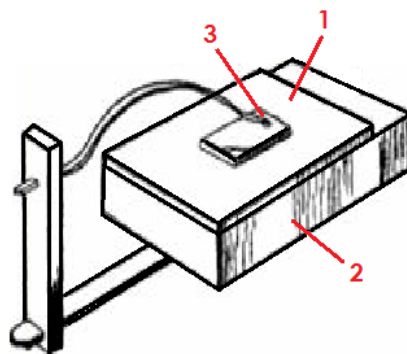

Fig. 1. The structure of the analyzer measuring cell
The analyzer is based on the principle of sorption-capacitive measurement of water vapors content in gases. The essence of the method lies in the dependence of the dielectric permittivity of the polymer humidity-sensitive element (1), see Fig. 1, placed between two electrodes (2) and (3), one of which is humidity-permeable, on the humidity of the surrounding medium. The water molecules contained in the analyzed gas are sorbed on the surface of the sensitive element, changing the capacitance of the capacitor formed by the electrodes. This change is directly proportional to the content (partial pressure) of humidity, which makes it possible to quantify the content of water vapors in the gas.